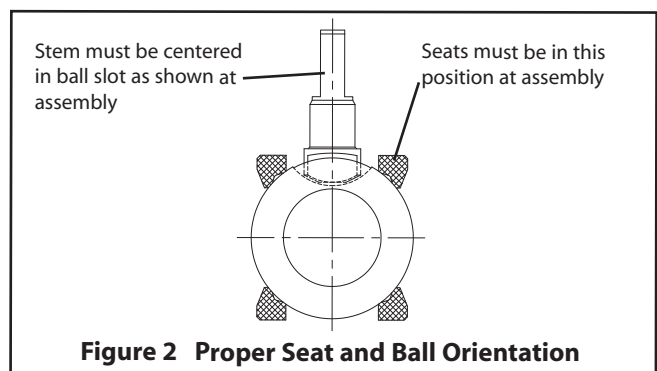
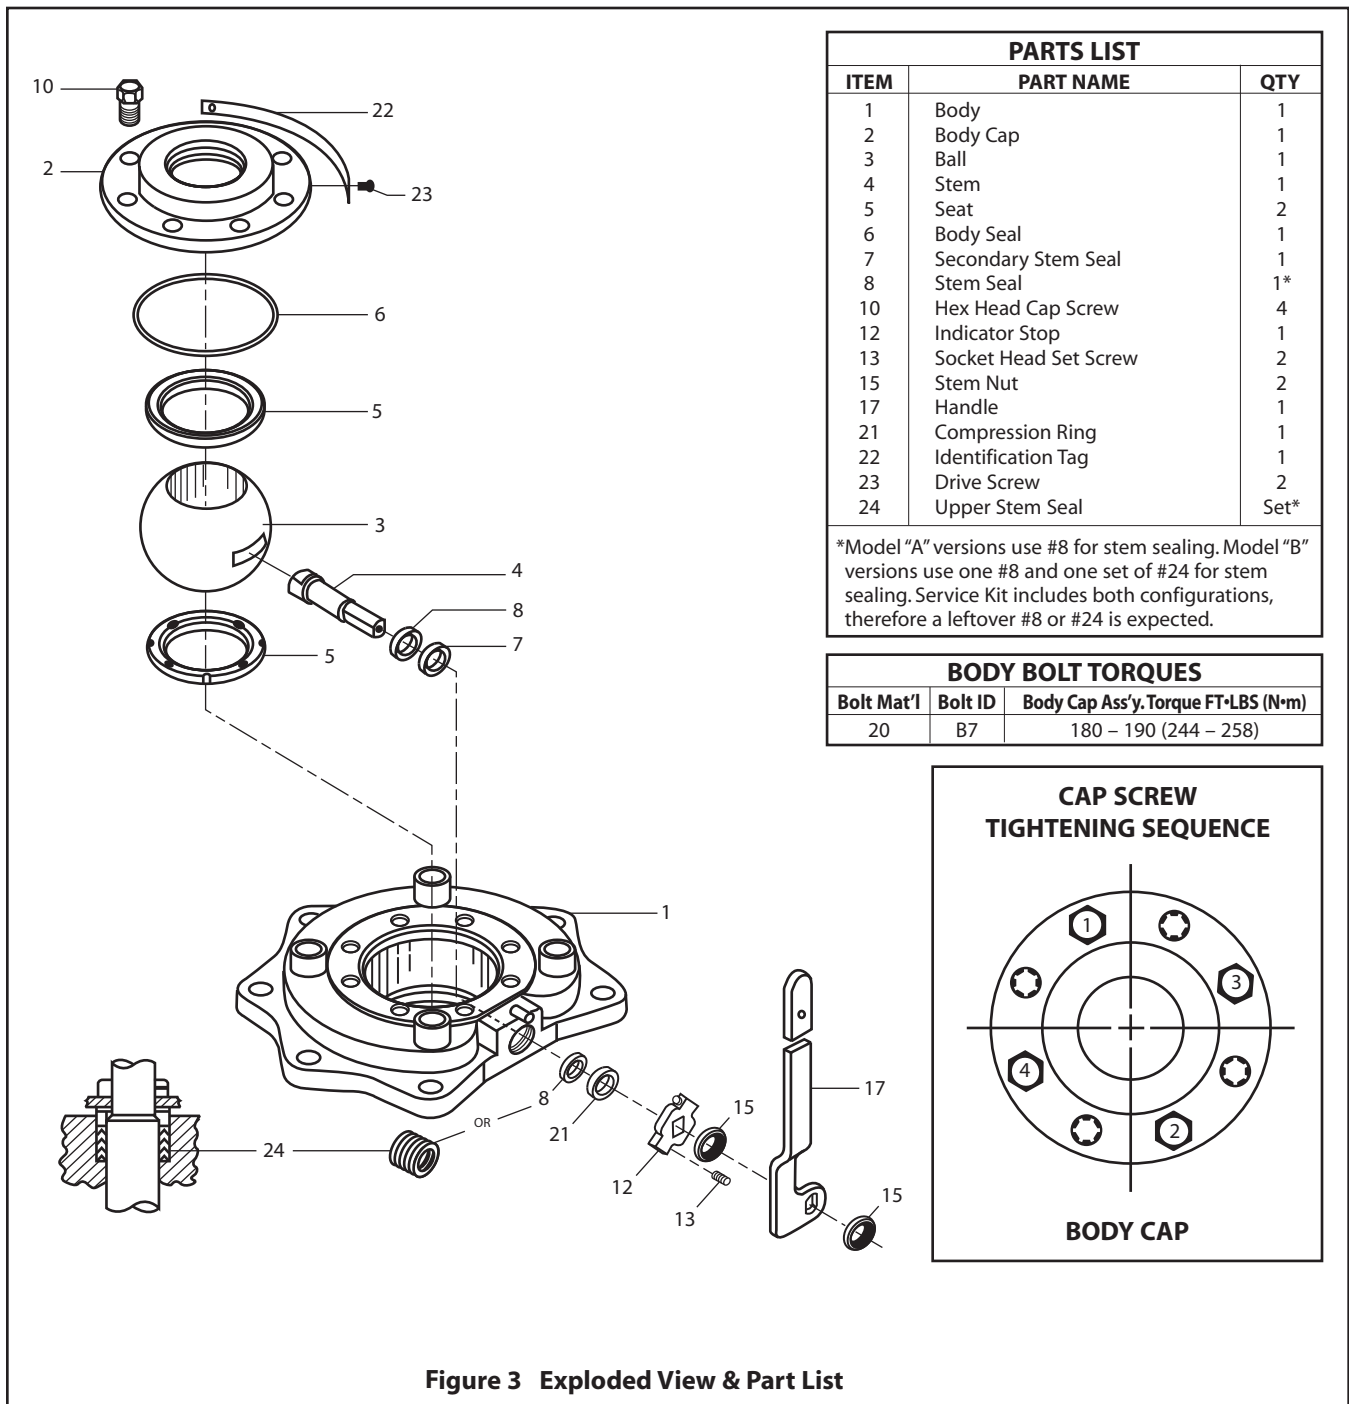

Figure 2 Proper Seat and Ball Orientation
Figure 3 Exploded View & Part List
Good operating procedure requires periodic observation to ensure that the valve is functioning well. The frequency of observation will depend on the application. Routine maintenance consists of tightening the lower stem nut (item 15 in **Figure 3**) periodically to compensate for stem seal wear.
- c. From **Figure 3**, the ballooned part number, part name and quantity required.
3. Carefully clean and polish the ball (3) sealing surface: It should be free of all scratches and grooves.
5. The valve needs to be raised above the working surface slightly because the ball protrudes slightly from either end of the valve when in the closed position. With the body cap side facing up, slide one valve seat (5) sideways into the body (1) to below the stem bore, and tilt it into place so that the proper surface (see **Figure 2**) will be adjacent to the ball (3), being careful not to cut or scratch the seat.
6. From inside the body (1), insert the secondary stem seal (7) and the bottom stem seal (8) into the body (see **Figure 3**).
7. Insert the stem (4) through the body cap end of the body (1), being careful not to scratch the stem sealing surface; and press it gently up into the stem bore until resistance is felt from the bottom stem seal (8).
8. Hold the stem in place from the bottom and insert the top stem seals (8), for Model 'A' version, or (24) for Model 'B' version (see **Figure 3** for proper v-ring orientation), over the stem (4).
9. Place compression ring (21) and indicator stop (12) over stem (4).
11. Tighten the stem nut (15) until the stem seal(s) are fully seated. Then tighten an additional 1/8 to 1/4 turn.
12. Insert the ball (3) rotating it onto the stem (4) in the closed position. If necessary, turn the stem blade to align with the ball slot. Make certain that the stem blade is in the middle of the ball slot; i.e. equal distance from the ends of the slot. Rotate the ball if necessary (see **Figure 2**).
13. Gently place the body seal (6) into the machined recess of the body (1).
14. Place the second seat (5) into the body cap (2) with the proper surface adjacent to the ball, (see **Figure 2**).
15. Place the body cap (2) in the body (1) being careful to properly orient body cap and body as originally assembled by matching orientation marks made prior to disassembly. Take care not to damage body seal (6) or seat (5) during this operation.
16. Lubricate the threads of body bolts (10) with NeverSeez® or equivalent. Install body bolts (10) and tighten sequentially as shown in the diagram in (**Figure 3**), to the recommended values as shown in the "**BODY BOLT TORQUES**" chart in (**Figure 3**).
17. Aligning the slot in the handle with drive on the stem, lower handle (17) straight down in line with the valve stem (4) until it is completely engaged. Place the second stem nut (15) on the stem (4).